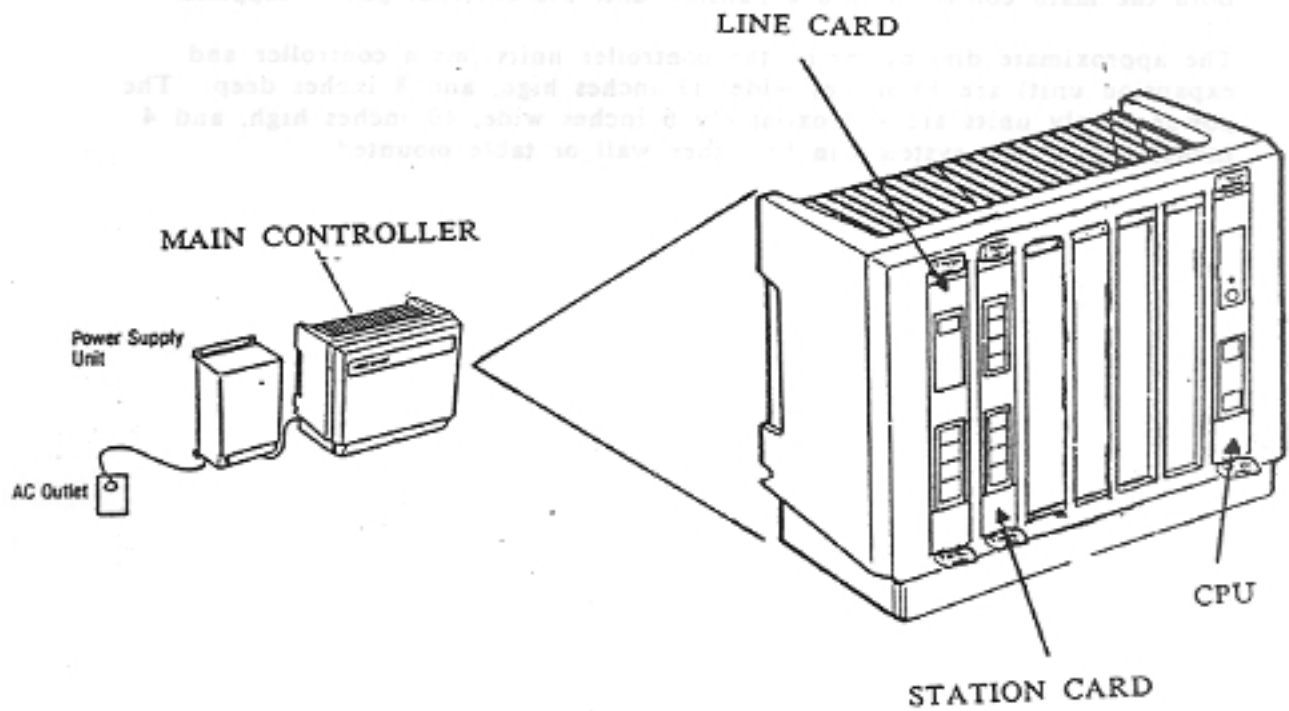

Figure 2. MAIN CONTROLLER UNIT
4	Figure 2. MAIN CO. THERMOSTAT
Refer the Students to Figure 2, page \_\_\_\_, in the student text.
- Refer to Student's Figure 2, page 10 in the student text.